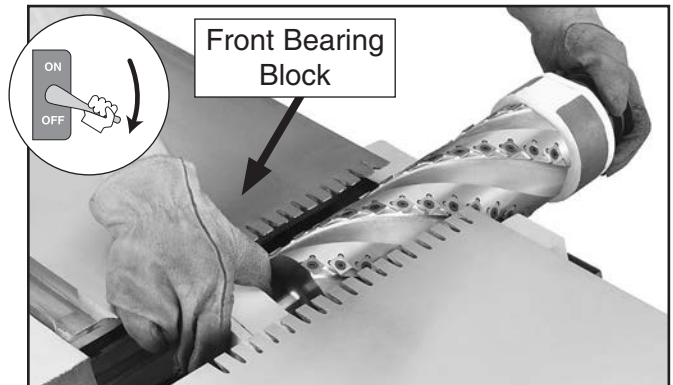

Figure 18. Installing cutterhead.
- Move the cutterhead to the jointer. Using the mark from **Step 18**, install the cutterhead so the front bearing block is positioned at the front of the machine (see **Figure 18**). Be careful not to chip the carbide inserts on the jointer beds!